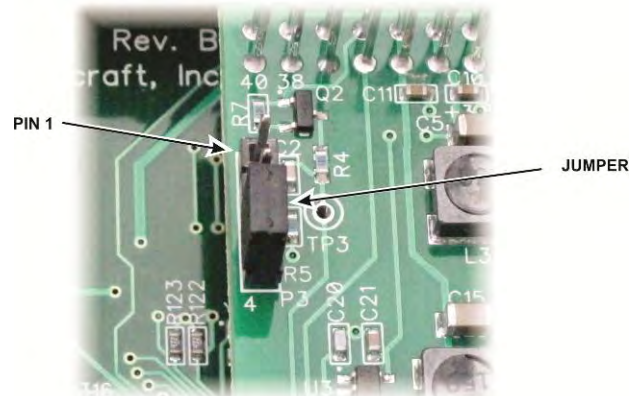

Figure 17. Power Control Jumper.
To configure the power control, loosen the four thumb screws and remove the PX3 bottom cover. The jumper is located near the edge of the Power Supply (PS) board as shown in Figure 17.
**Pins 3 & 4:** Normal operation of the **PWR** switch. The jumper is shown in this position in Figure 17.